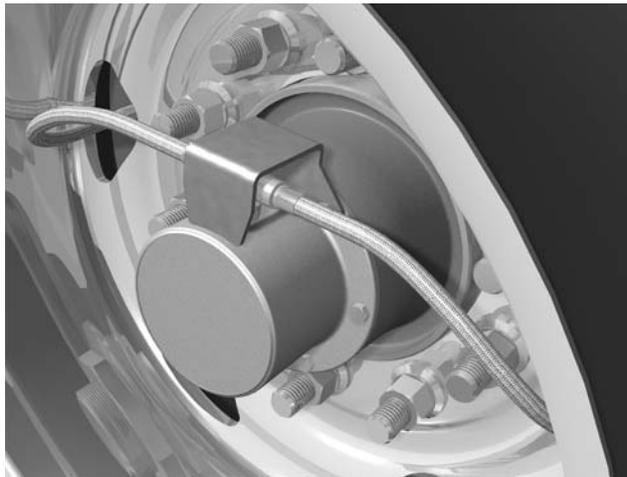

Figure 1. Finished tire hose and tee fitting guard installation
1. Position the hubcap and wheel so the hoses will not stretch or rub on the wheel. Refer to figures 1 and 2 and the table on this page.